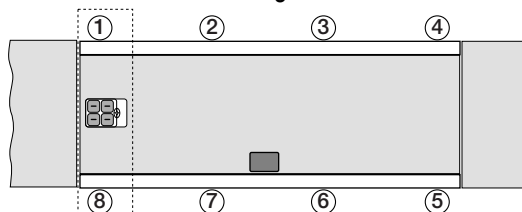

Figure 4-4. Trimming Paired Section 1:8
1. Park the loaded weight cart in the middle of the scale and directly over an imaginary line connecting an end pair of cells (1 and 8 in Figure 4-4). Record the indicator reading.